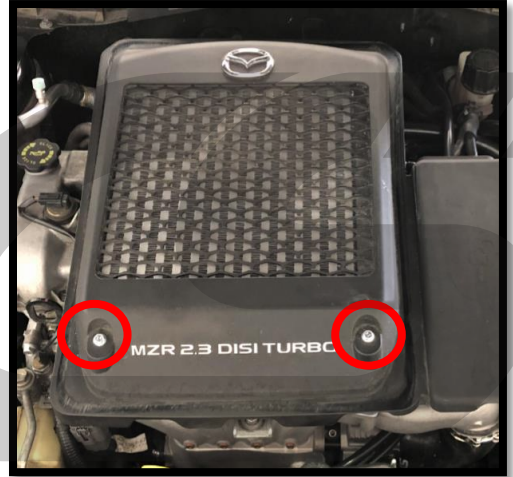

Figure 2a
- a) Remove the two 10mm bolts holding the OEM TMIC shroud. Shown circled in red in **Figure 2a**. Then remove the TMIC shroud.